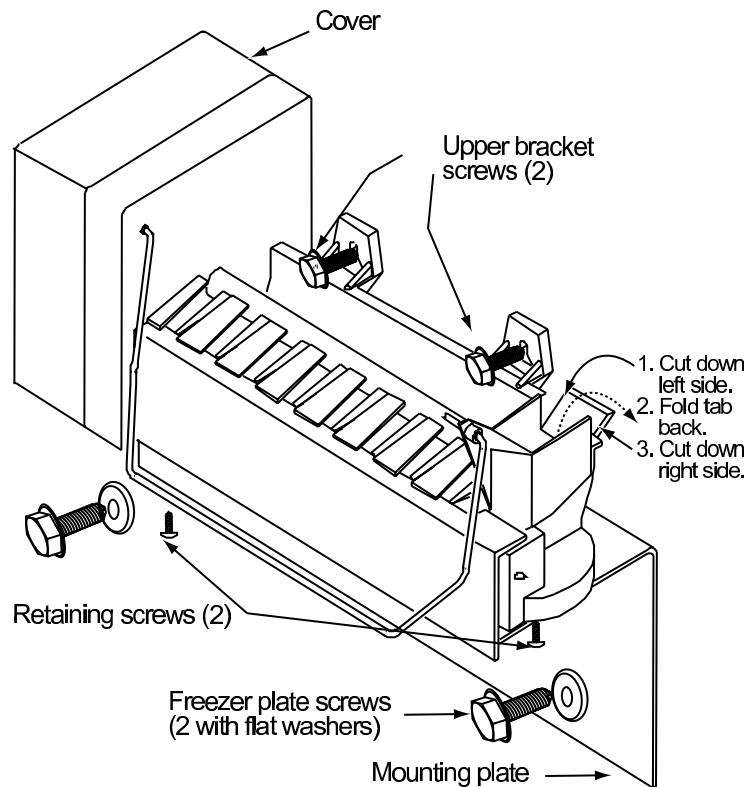

Figure 55. Ice maker screw locations
4. Unfasten two retaining screws to detach the ice maker from mounting plate. See Figure 55. Save screws.
1. Cut tab on ice maker and fold as shown in Figure 55.
1. Remove the two screws holding the ice maker to the mounting plate. See Figure 55, page 60.